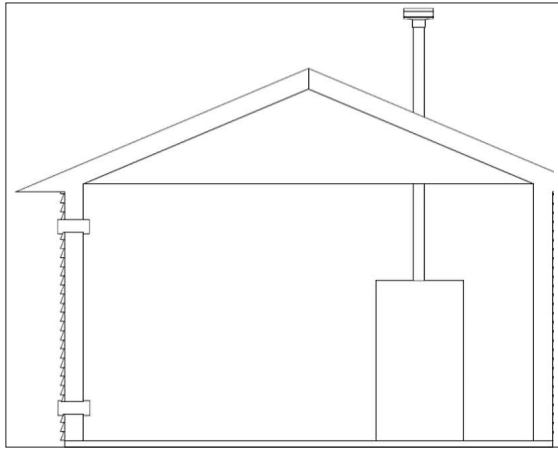

Figure 26 - Combustion Air from Outdoors
1. If air is taken directly from outside the building with no duct, provide two permanent openings to the mechanical room each with a net free area of one square inch per 4000 BTU/hr input. See Figure 26.